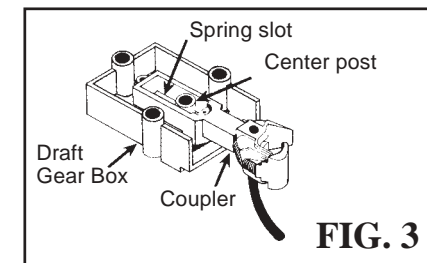

FIG. 3
3. Place coupler into Draft Gear Box, as shown in Fig. 3. Add a little more #231 Greas-em and "toggle" coupler back and forth in box to burnish further.